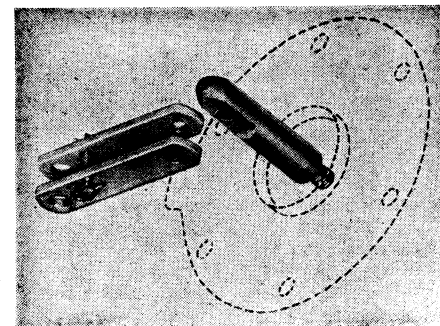

Fig. 8 Series B link and pin assembly
1. Assemble the two links, Fig. 8, with one link pin and clips.